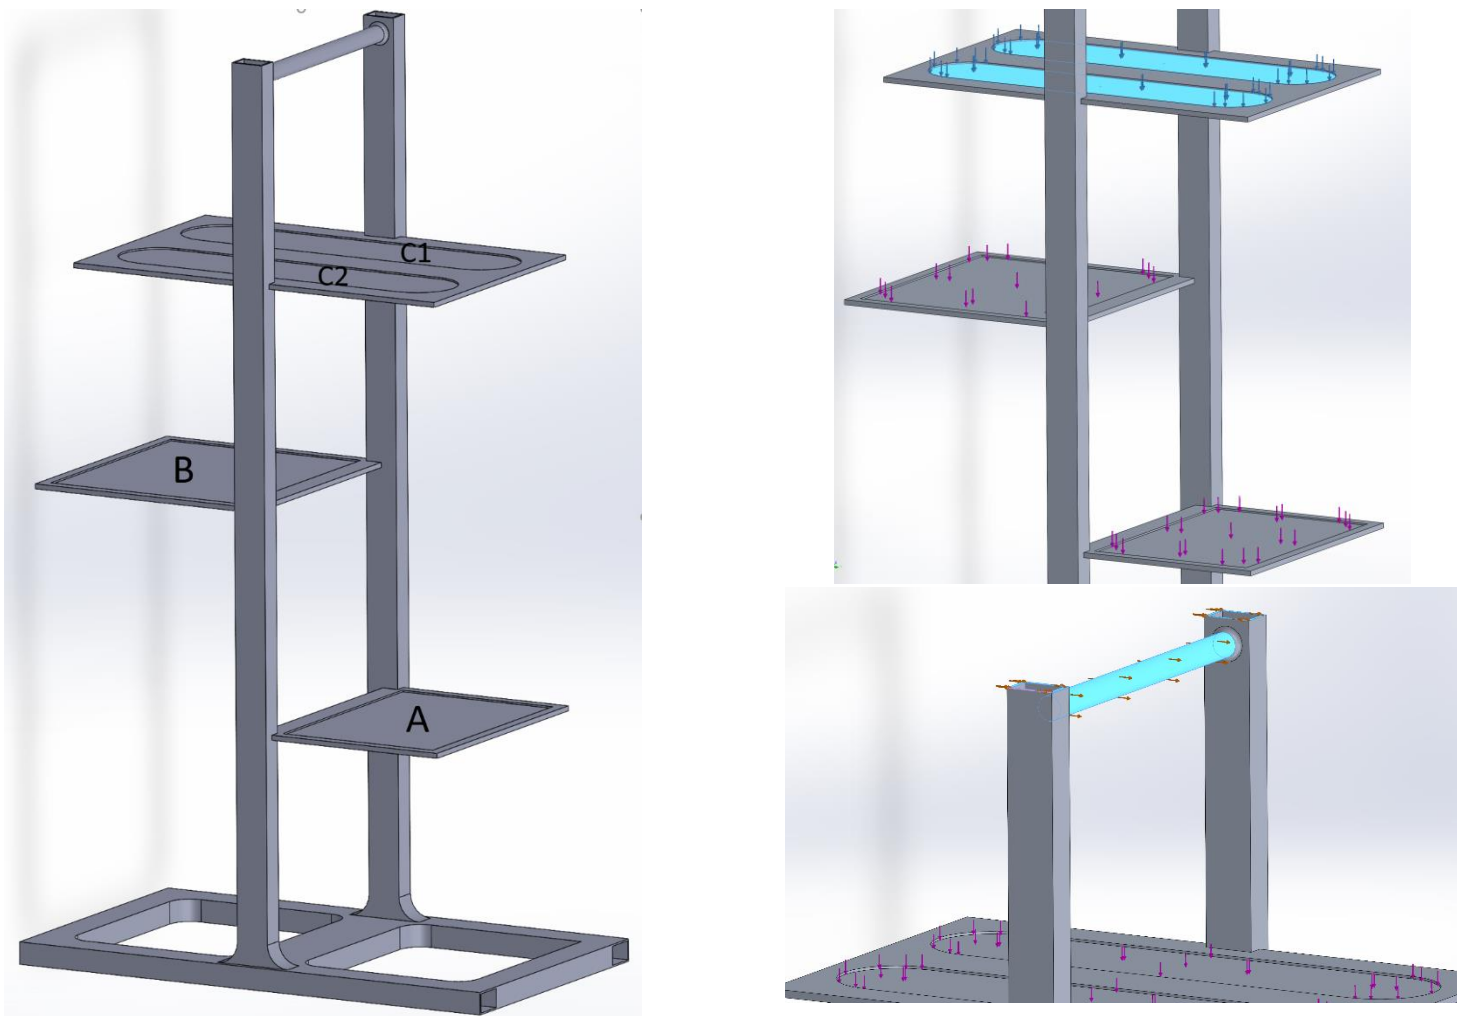

Figure 3. Schematic of a plant stand and applied loads.
A nursery is considering a new design for a plant stand as depicted in Figure 3. This system is required to exhibit an excellent mechanical performance against holding plants and heavy pots up to 50 [kg]. The pots, including some heavy items are placed on top of each shelf. These regions are illustrated in Figure 3 as A, B, and C. The main beams are constructed from a 30 mm × 20 mm rectangular profiles, with 1.5 mm thickness. Before analysis, some pre-assumptions are made as follows:
- 5) The upper holder shaft and profile cross section are also exposed to a total force of 10 kg (note the direction of the applied loads in Figure 3).